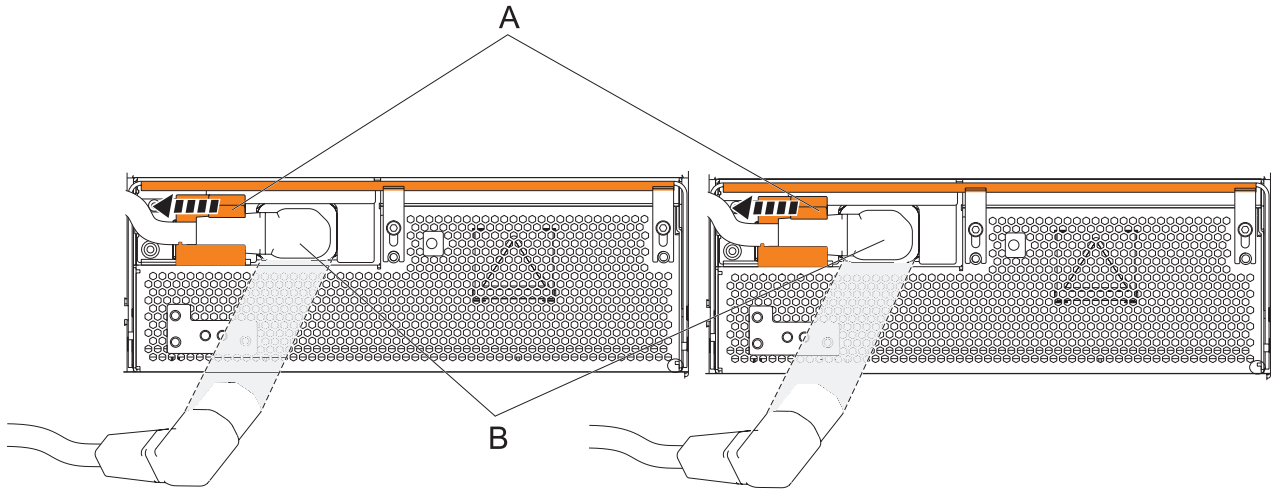

Figure 65. Disconnecting the OCA power cords
- a. Slide the power cord holders **(A)** to the left, located on the front of both the OCAs. See Figure 65 on page 82.